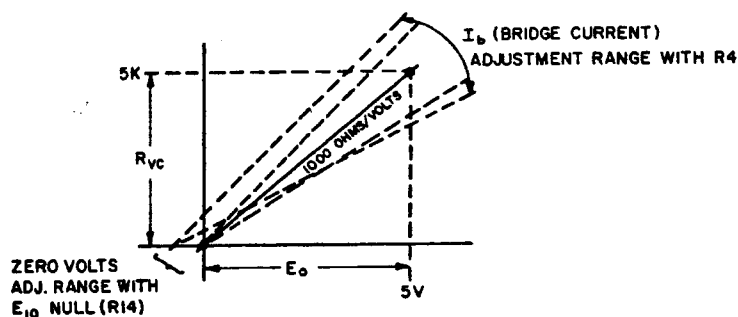

FIG. 3-5 ESTABLISHING PROGRAMMING LINEARITY
- Open S1 and check the 5 volt reading. Repeat "c" and "d" as necessary to achieve the desired accuracy. FIG. 3-5 below shows graphically how the programming ratio can be precision adjusted.